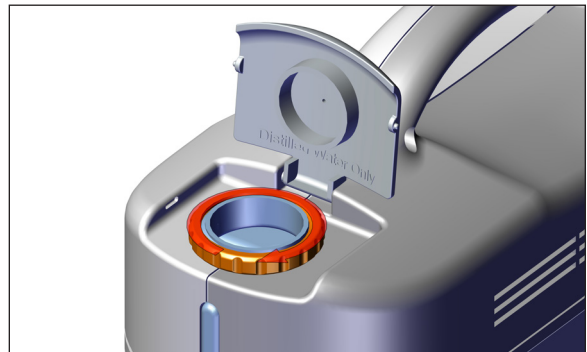

Figure 23 - Step 2 Install reservoir collar
2. Screw on the reservoir collar (Figure 23).